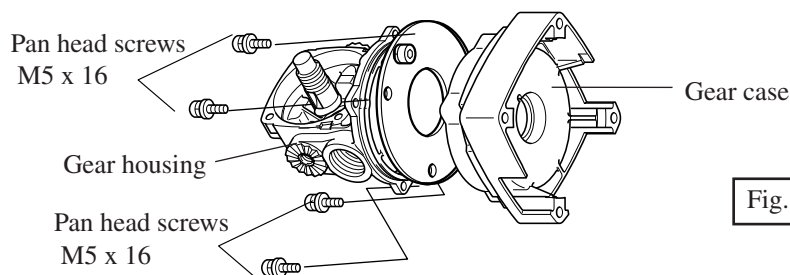

Fig. 10
- ( 1 ) After taking off spur gear 40 as illustrated in Fig. 3 and Fig. 4, unscrew 4 pcs. of pan head screws M5 x 16 and separate gear case from gear housing as illustrated in Fig. 10.